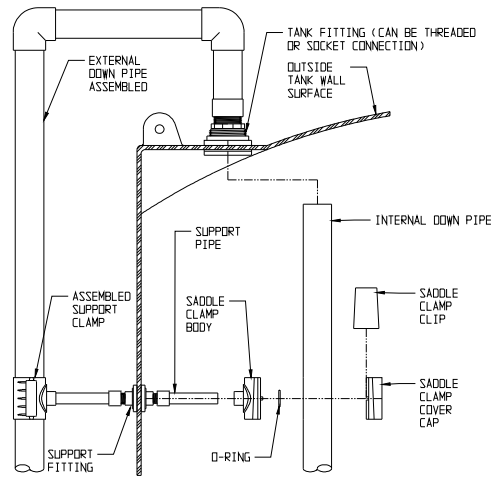

Figure 7.3
7.3.2 Assemble the piping loosely using Figure 7.3, the guidelines detailed below, and the customer approved tank drawing to ensure all parts are present and cut to meet the customer's requirements. As soon as all parts have been checked, assemble the parts with solvent weld cement and/or threaded connections as shown in Figure 7.3.
7.3.3 Assemble and install support structures as shown in Figure 7.3 (without the saddle clamp cover caps and clips). Since the support fitting does not penetrate the tank wall, the threaded connection to the support fitting does not need pipe sealant. Make sure the support clamp orientation is correct (with the small width of the wedge toward the top of the tank). Assemble and install piping as per the customer approved drawing. As piping is being installed on the tank, lock it in place with the saddle clamp cover caps and clips provided (make sure that the sealing o-ring is in the proper position as the pipe is positioned into the saddle support body). Seal all threaded pipe connections (except the support fittings) with Teflon pipe sealant and connect solvent weld sockets with solvent cement.